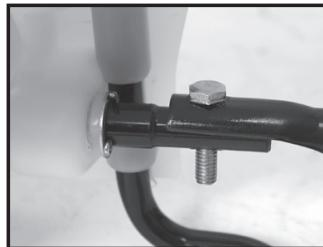

Figure 5
The pump handle can be mounted on either side of the pump shaft (A). To install the pump handle place the handle (C) over the shaft (A) aligning the pump handle hole and shaft hole. Slide the bolt (B) through the aligned hole as shown in figure 3. Tighten nut (D) to bolt. There are holes in the pump handle to allow for either left (fig.2-4) or right (fig.5) hand mounting.